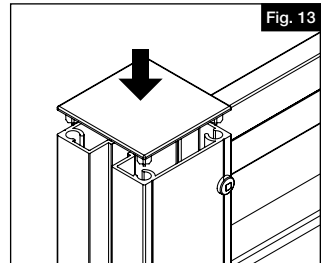

Fig. 13
11. Place post caps on top of posts (lining up the tabs underneath to the holes in the post). Using a rubber mallet, fully seat the cap onto the post (Fig. 13).